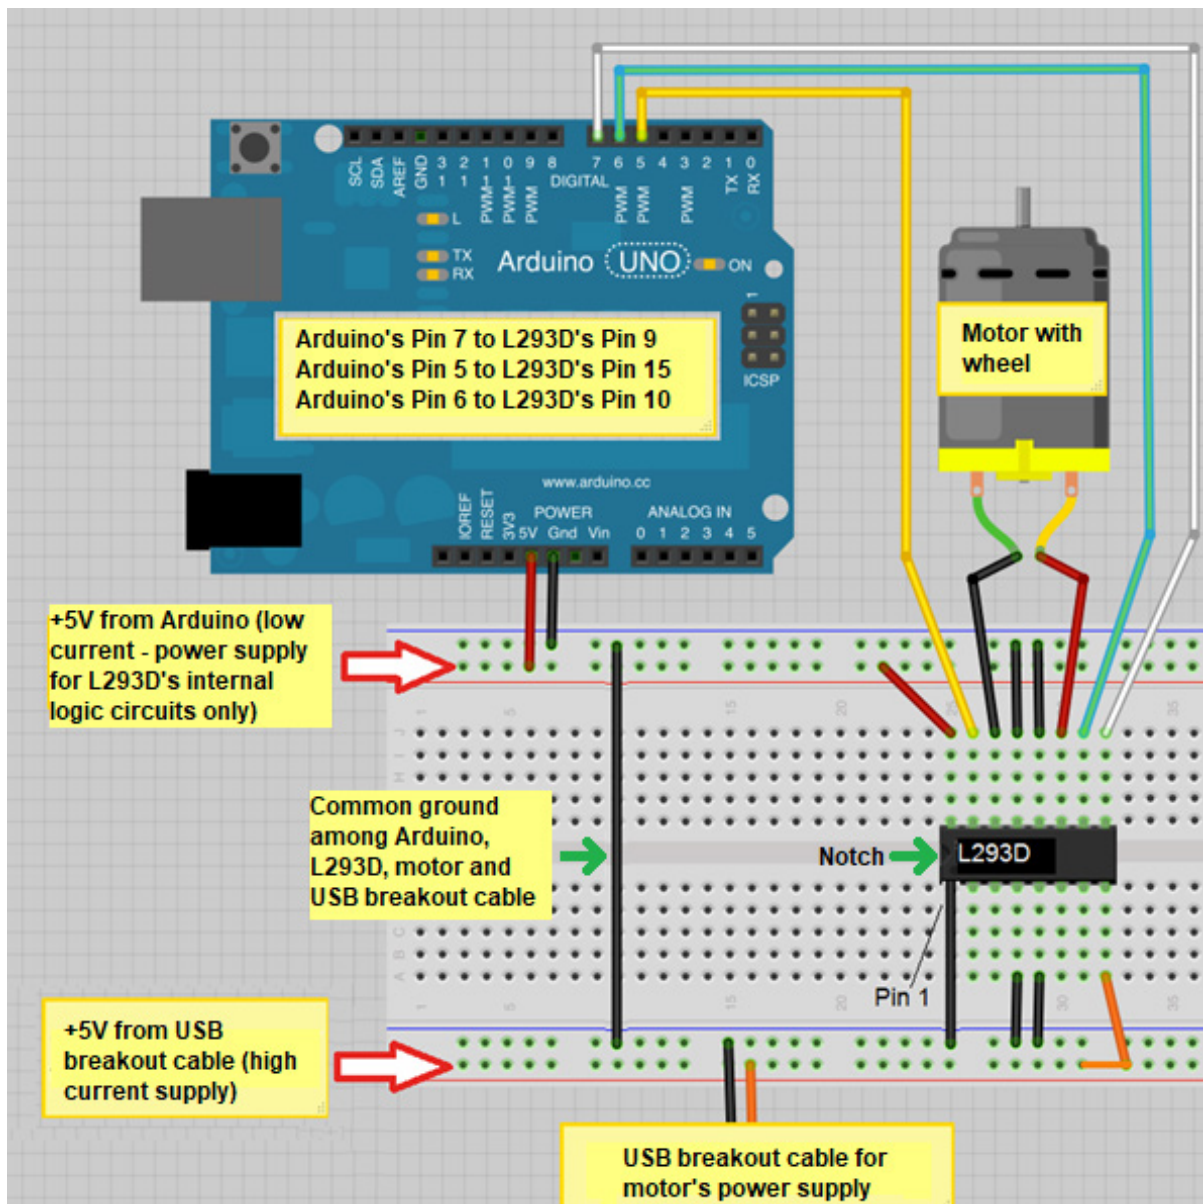

Figure 5: Diagram illustrating connections of Arduino, L293D chip, USB breakout cable, and motor.
5. Connect Arduino's 5 V and GND to the breadboard as shown in Figure 5 below. Also, make the remaining necessary connections between the Arduino board, L293D chip, and the motor according to the schematic. Connect all the wires, **except for the red wire of your USB breakout cable**. (Note that for this experiment, it does not matter which of the two motor wires you connect to L293D's pins 11 and 14.) As explained earlier, the motor's current requirement is large, and it must come from another power supply (in our case it is from the USB breakout cable) and **not** from your Arduino Uno. The Arduino Uno's +5V is merely used as the power supply for the internal digital logic circuits inside the L293D chip.